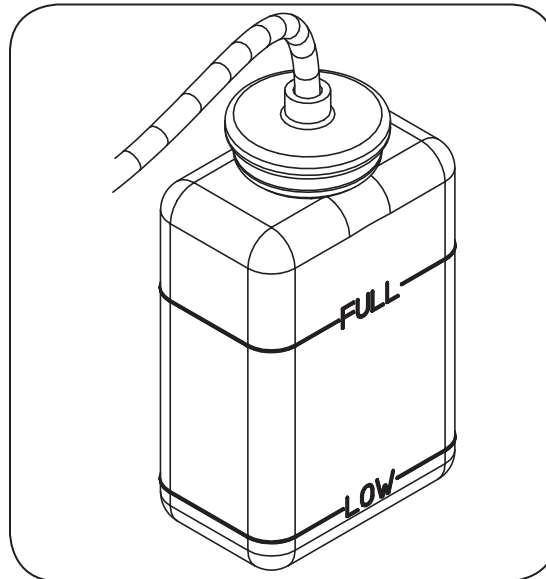

Figure 10
3. If the coolant level is below the "LOW" mark, remove the cap from the reservoir and add coolant solution to the "FULL" mark. Refer to Figure 10.